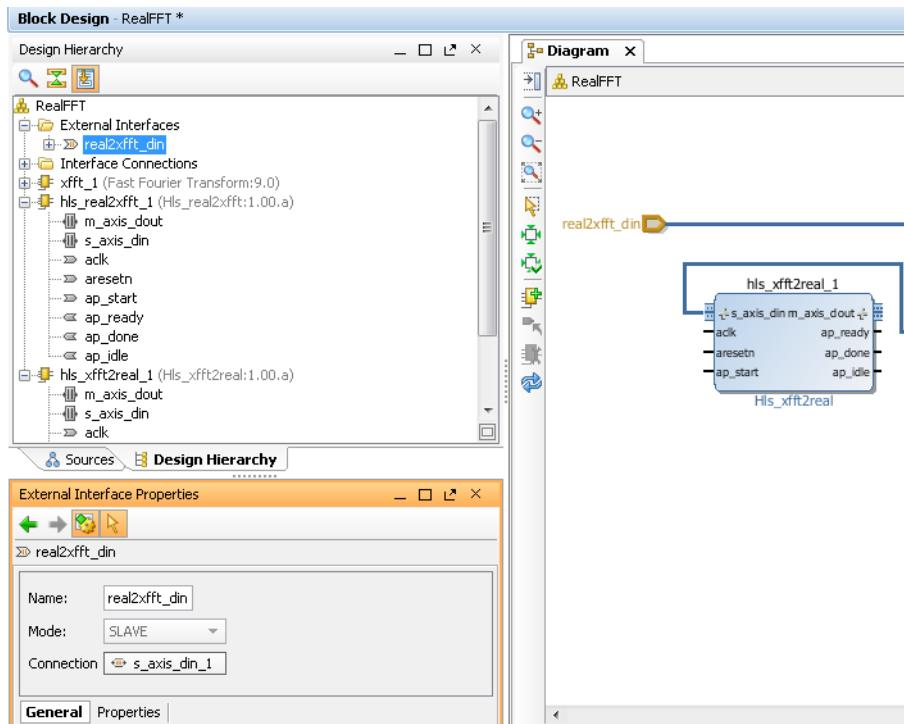

Figure 9-22: Port Naming
- b. In the External Interface Properties pane (Figure 9-22), double-click in the Name text entry box to highlight **s_axis_din**.